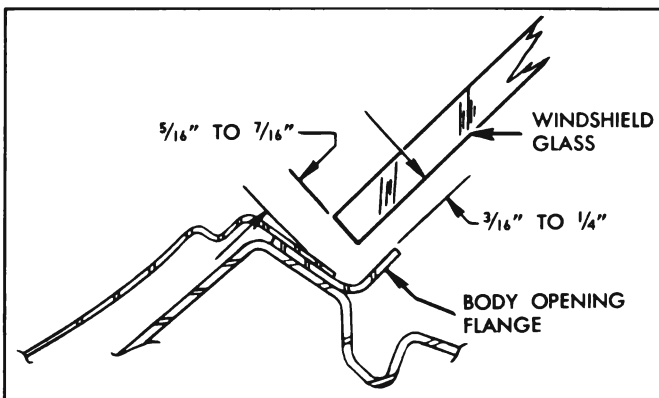

Figure 13-174—Windshield Glass to Pinchweld Clearances
4. Figure 13-174 shows a typical cross-section taken through glass and body opening.